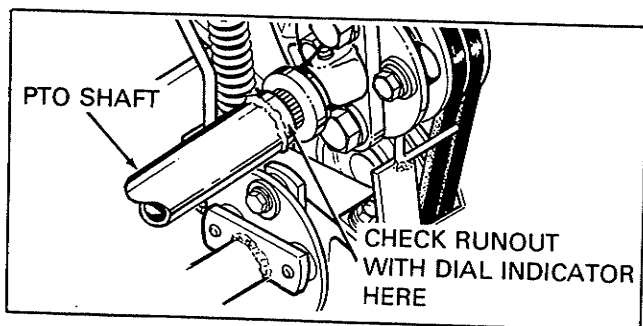

Figure 11A. PTO Runout Check
- b. Use a dial indicator to check the runout near the splined front end of the PTO shaft (see Figure 11A). If runout exceeds 0.020 of an inch, reposition the shaft by tapping yoke until the runout falls below 0.020.